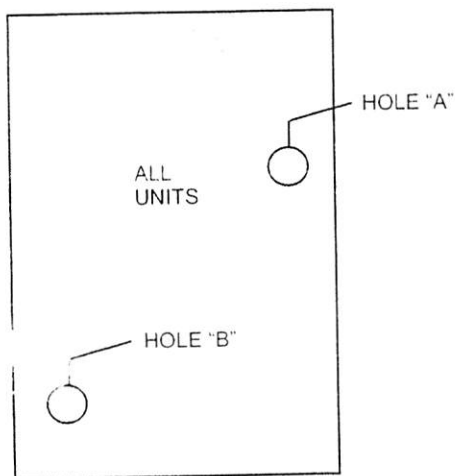

FIGURE 3: Bracket Alignment
6. Referring to Figure 3, if Hole "A" is not present, drill a 5/32" hole in this location using the new igniter bracket for alignment (see Figure 4). Do NOT attach igniter to bracket prior to drilling hole. The drill bit should NOT penetrate the insulation behind the panel.